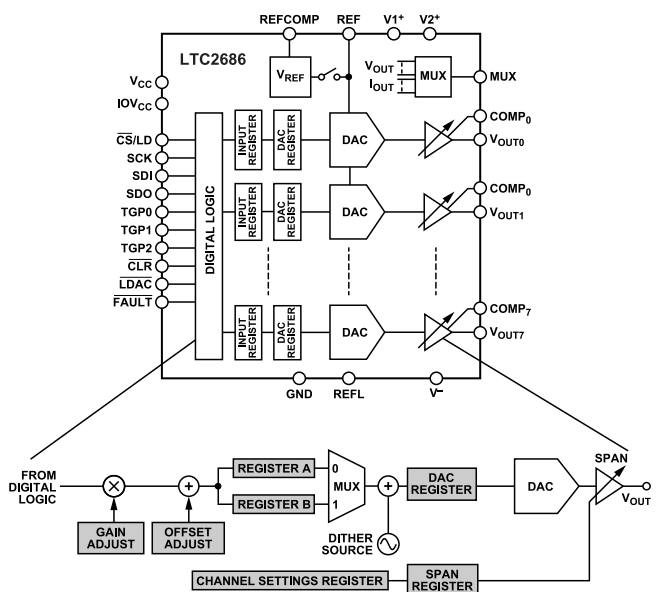

Figure 47. Block Diagram
- ▶ Input register: the write operation shifts data from the SDI pin into a chosen input register. The input registers are holding buffers. Write operations do not affect the DAC outputs directly. In the code datapath there are two input registers, A and B, for each DAC register. Input Register B is an alternate input register used only in toggle and dither operation, whereas Input Register A is the default input register (see Figure 47).
- ▶ DAC register: the update operation copies the contents of an input register to its associated DAC register. The content of a DAC register directly controls the DAC output voltage or range. The update operation also powers up the selected DAC if it was in power-down mode. The data path and registers are shown in Figure 47. Updates always refresh both code and span data, but the values held in the DAC registers remain unchanged unless the associated input register values have been changed via a write operation. For example, writing a new code and updating the channel updates the code, but the span is unchanged. A channel update can come from a serial update command, an LDAC negative pulse, or a toggle operation.